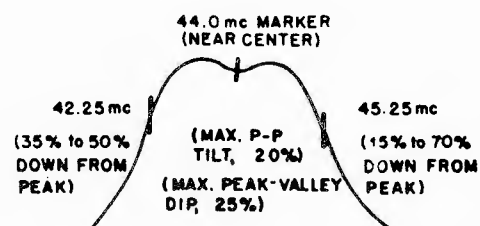

FIG. 4
6. Adjust T-3 top and bottom simultaneously for over-coupled response as shown in Fig. 4. (Use core positions nearest outside ends of coil.) With input signal maintained to produce 2 volts P-P output during final adjustment, bandwidth markers should fall between the tolerances indicated.